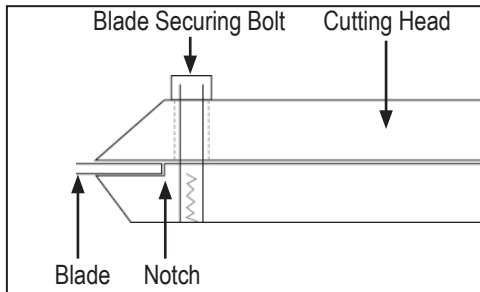

FIG. 6
2. Insert blade into the cutting head to back of notch (Figure 6); tighten firmly.